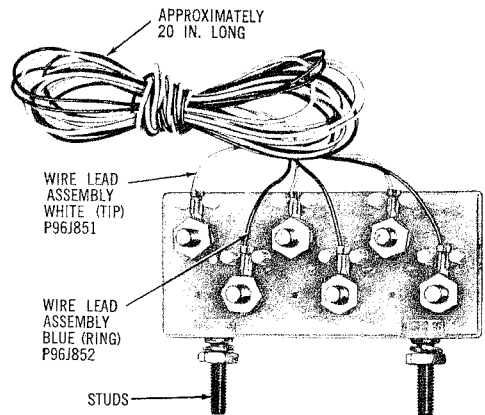

Fig. 1 – QBN1C Terminal Block
2.01 The MD3209 and MD3208 Terminals are furnished with one QBN1C Terminal Block (Fig. 1) which supersedes the P18A782 Block. Each binding post of the QBN1C Block has a single 24-gauge Wire Tip Assembly attached. The top (tip) posts have white leads and the bottom (ring) posts have blue leads.